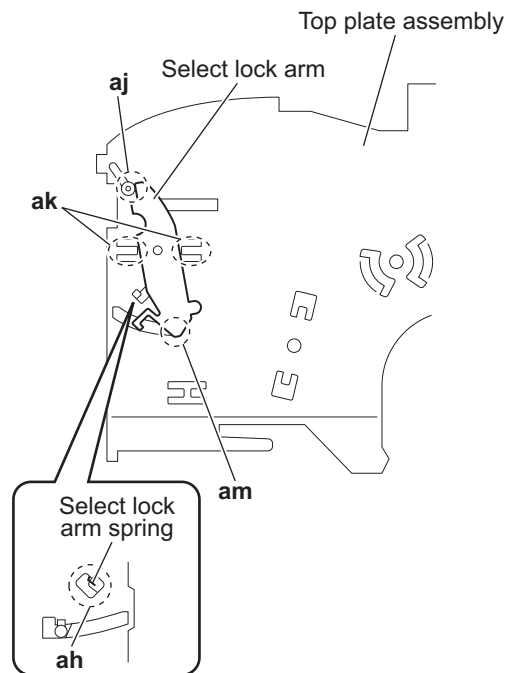

Fig.18
- (5) From the bottom side of the top plate assembly, remove the select lock arm spring from the section **ah**. (See Fig.18.)
- (6) From the top side of the top plate assembly, remove the section **aj** of the select lock arm from the top plate assembly at first and remove the sections (**ak, am**) of the select lock arm from the top plate assembly. (See Fig.18.)
- When removing the select lock arm spring, be careful not to lose it. (See Fig 18.)